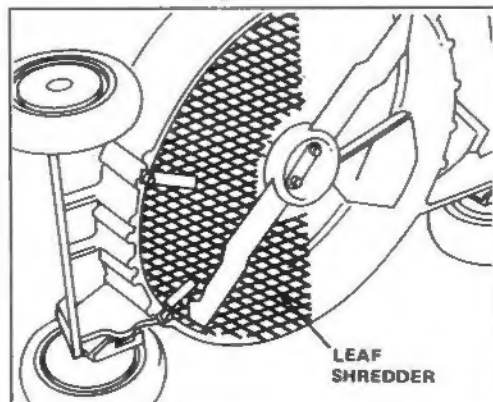

Figure 33
3. Leaf Shredder Kit, Model No. 59180—Installs on underside of mower in minutes without requiring removal of blade. Shreds leaves into small pieces for clean vacuuming into grass bag and convenient disposal (Fig. 33).